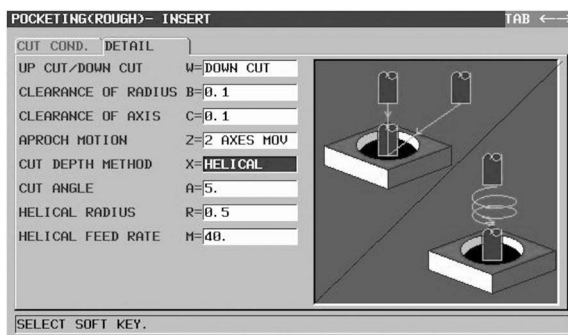

Figure 7-59 POCKETING (ROUGH),
- Complete the POCKETING (ROUGH) DETAIL tab per Figure 7-59, Set the CUT DEPTH METHOD in the POCKETING dialog on the DETAIL tab to X=HELICAL. Note the two soft key choices of STRAIGHT or HELICAL.